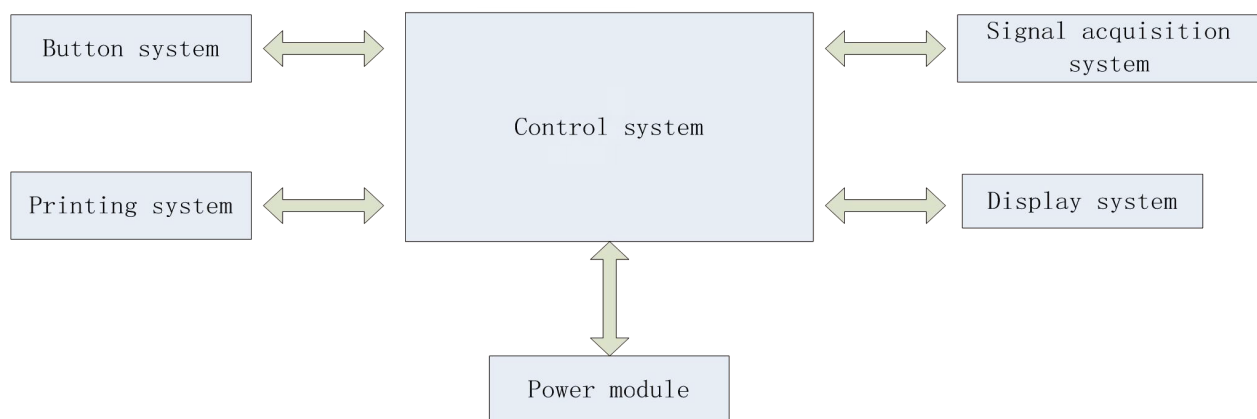

Figure 4-1 Block diagram of control unit
- Principle block diagram is shown in Figure 4-1